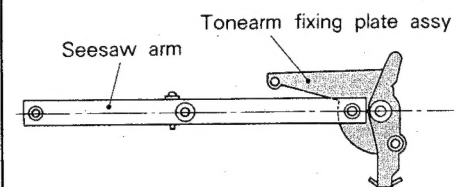

Fig. 9
- (b) Rotate the drive gear in direction of normal play. Continue gear rotation until seesaw arm assy. is aligned as shown in Fig. 9.